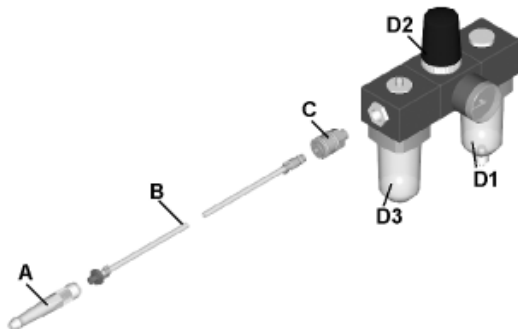

Fig. 1: Connecting the air supply duct
The (engraving) chisel (A) is connected to the maintenance unit (D1 - D3) by means of a pressure hose (B) and one-hand coupling (C) (refer to Fig. 1). An intermediate piece can be installed between the valve housing and pressure hose to extend the device.
Mount the maintenance unit in the following sequence: water separator (D1) - pressure regulator (D2) - oil mister (D3) (refer to Fig. 1:).